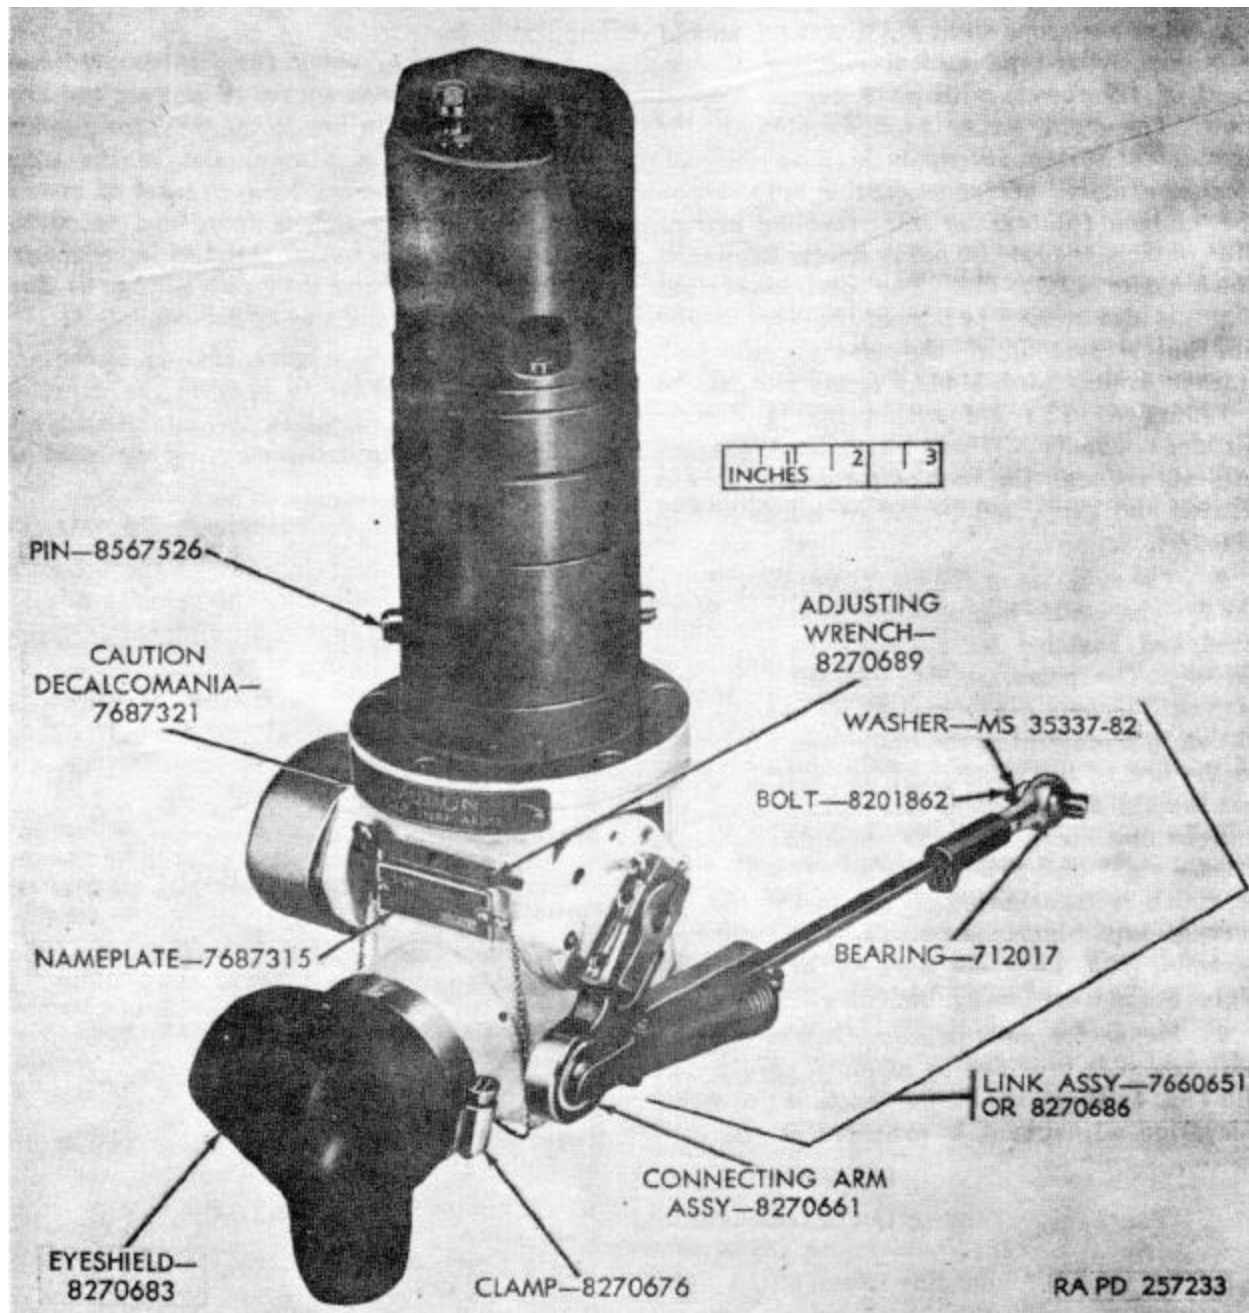

Figure 1. Complete periscope M28 (T46), M28C, and M28D with equipment.
b. The eyepiece of the sight, which contains the eyelens, center lens and field lens (fig. 3), is fixed and remains stationary relative to the vehicle. The prism rotates the line of sight from 15 degrees depression to 60 degrees elevation in maintaining the line of sight parallel to the line of fire of the machinegun throughout the gun's full range. Connection from the gun to the sight is made through a quick-release sight link assembly (fig. 4), movement of which is transmitted to the prism (fig. 2) through tape-connected pulleys. The sight link assembly (fig. 1) is not part of the periscope sight, but is issued as equipment with the sight.
e. An adjusting wrench (fig. 1) is chained to the sight in order to provide the operator with a means of adjusting the azimuth adjusting pin (fig. 4) while boresighting the installed sight.